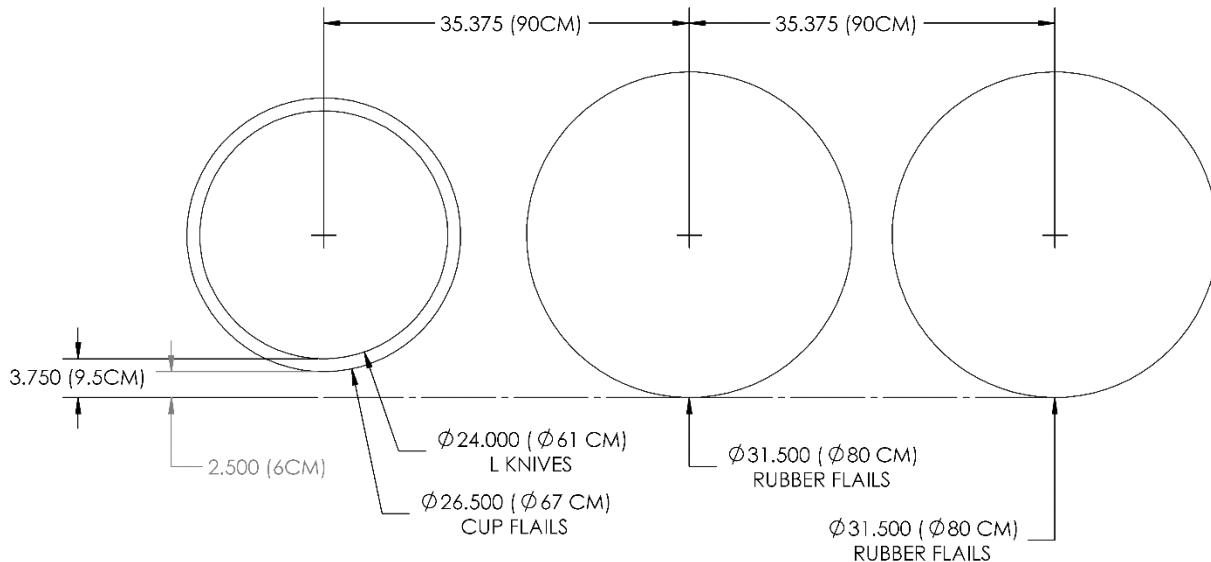
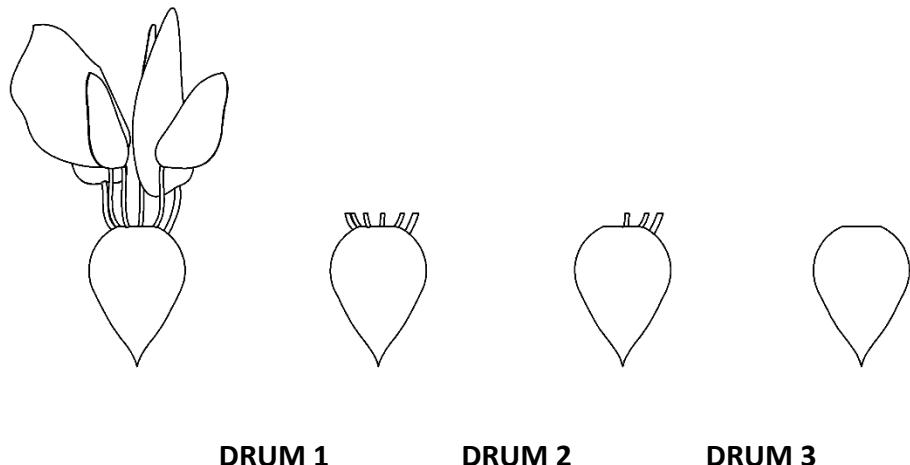

Figure 24: Defoliator Drum Flail Size
Figure 25: Defoliation Process
7.2.3 Flail Size Drum 1 height as shown in Figure 24 above is designed to run higher than the rear drums 2&3. This is based on its function which is to remove the majority of the beet leaves leaving only a few petioles or leaf stems for the 2nd and 3rd drums to remove from the crown of the beet. The rear two drums which are designed to be run level with each other, counter rotate so the flails hit from different directions to clean the front and back of the beet crown as illustrated in Figure 25 below. This is where the 50 series and 00 series differ significantly and described in the following sections.
7.2.4 50 Series The design feature that enables the 50 series defoliator to do more work faster is the shrouded front steel drum 1. The shrouded drum 1 is able to remove the majority of foliage leaving only a couple of inches of petioles and keeping the rear drums clear of excess leaves allowing them to perform their jobs more effectively. Drum 2 rotates with the direction of travel its job is to clean the front side of the beet as shown in Figure 25. The 2nd drum has 10 sets of flails compared to the 6 of the rear drum because of the rotational direction makes for a less aggressive cleaning action. Drum #3 rotates against the direction of travel used 6 sets of flails and its flails contact the back half of the beet removing the final petioles from the beet crown. By looking to see where the petioles remain will let you know if the 2nd, 3rd or both drums need to be raised or lowered. Lower or raise the hitch to adjust for level and lower rear struts to adjust drum 2 and drum 3 flail height. Both hitch and rear strut adjustments will affect the other drum so double check flail heights for both drums after making any adjustments.
On all 50 series Amity defoliators the 3 drum can be adjusted upwards. With the defoliator run level as intended shown in Figure 24, the front steel drum 1 is 2.5 inches (6cm) (higher than rubber drums 2 and 3; with drum 1 removing the majority of foliage and drums 2 and 3 cleaning the petioles from the crown of the beet. The purpose of drum 3 being adjustable is for beet stands with poor emergence where beet height varies drastically. In this situation when running level the front steel flails would be slicing off the tops of higher beets. Raising the 3rd drum allows the operation to lower the rear of the defoliator and raise the front with the end result of having drum 1 higher. This adjustment may also be used as the flails become worn and the rubber flail's 2.5 inches (6cm) difference in operating height becomes closer to the front steel drum.